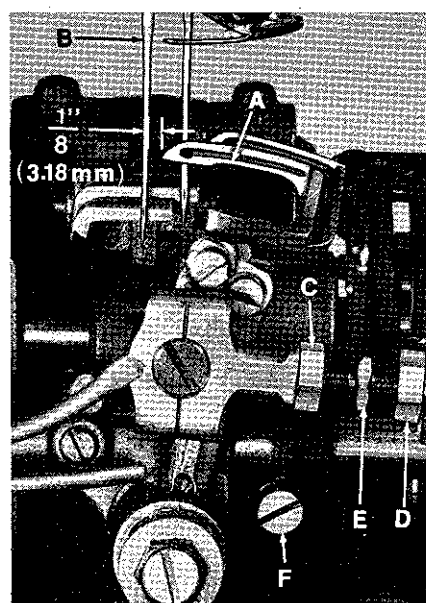

FIGURE 4
Insert a new set of needles in the needle holder (Type and Size as specified). The looper gauge is 1/8 inch (3.18 mm), set the front looper (A, Fig. 4) so the distance from the center of the left needle (B) to the point of the front looper is 1/8 inch (3.18 mm), when the looper is at its farthest position to the right. Looper gauge No. 21225-1/8 can be used in making this adjustment.
If adjustment is required, loosen nut (C, Fig. 4) (it has a left hand thread) and nut (D) on connecting rod (E), turn the connecting rod forward or backward to obtain the 1/8 inch (3.18 mm) dimension. Retighten both nuts,
If adjustment is necessary loosen lock screw (F, Fig. 4) and position the looper point to the needle as described. Tighten lock screw (F) when setting is obtained and recheck the adjustment.